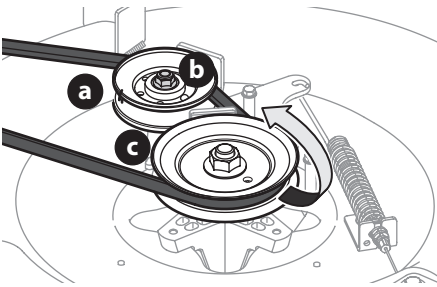

Figure 37
- Loosen the idler pulley (24" decks only) (a) by loosening the flange lock nut (b) that secures it, enough to allow clearance for the belt to move past it and off. Remove the belt by working it off of the deck drive pulley (c) and idler pulley (a) (Figure 37).